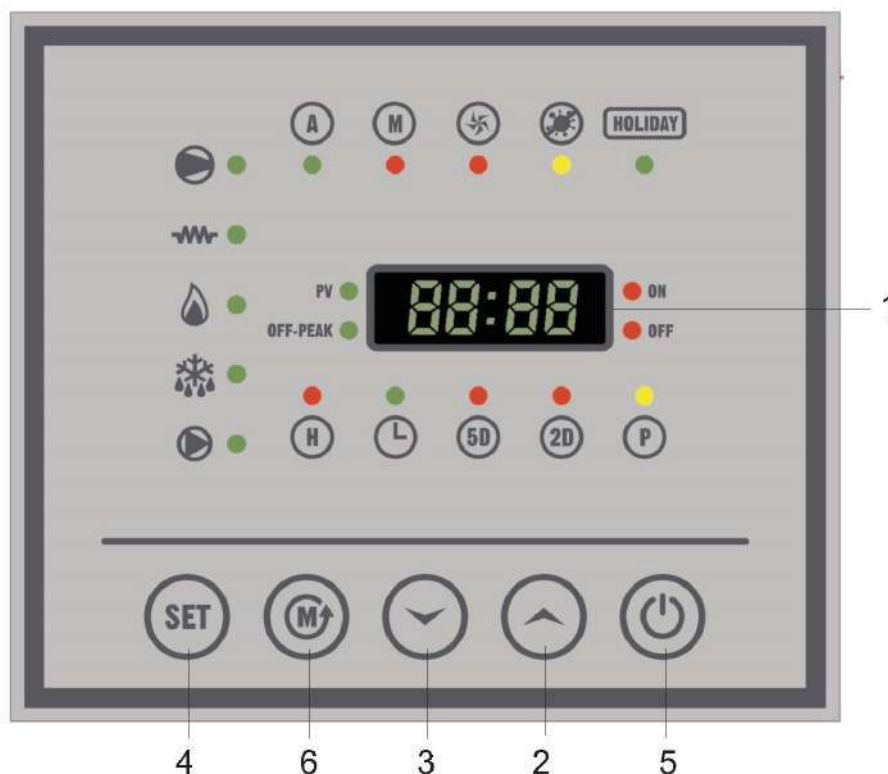

Fig. 9
5.2 INTERFACCIA UTENTE (FIG. 9)
5.2 USER INTERFACE (FIG. 9)